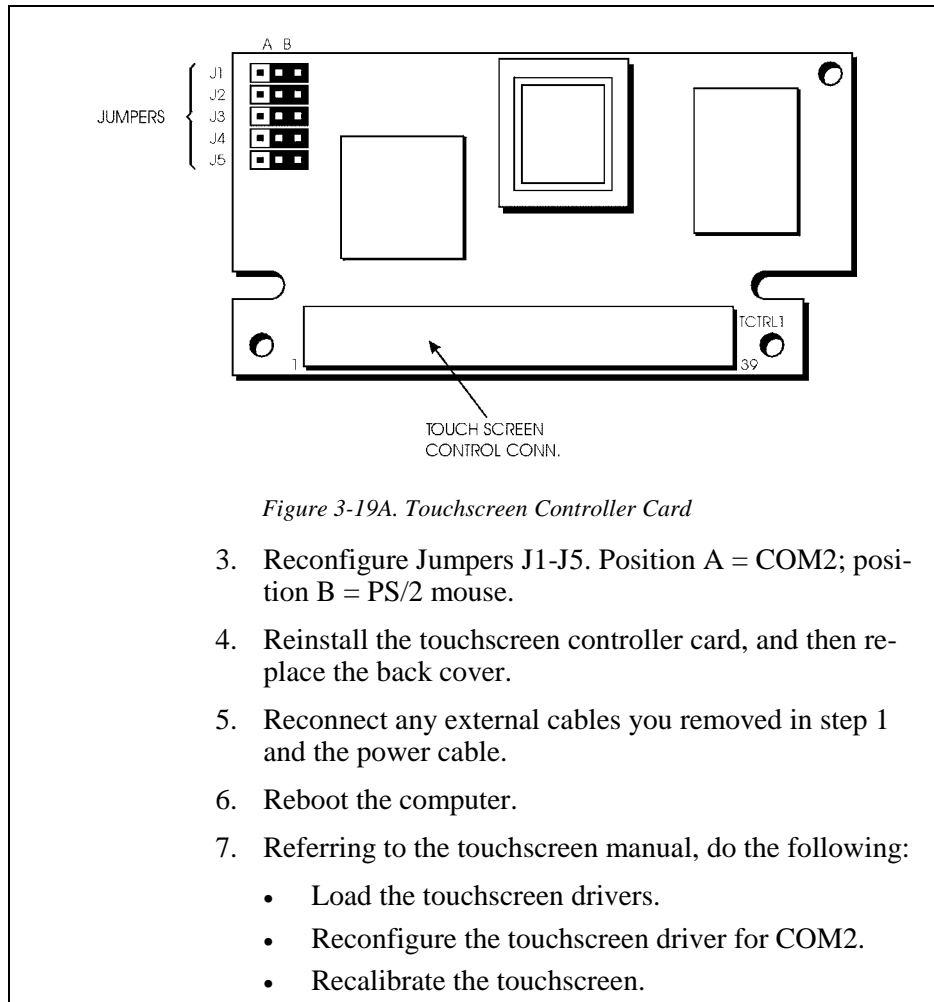

Figure 3-19A. Touchscreen Controller Card
2. Remove the touchscreen controller card. Figure 3-19A shows the touchscreen controller card and its jumper set.